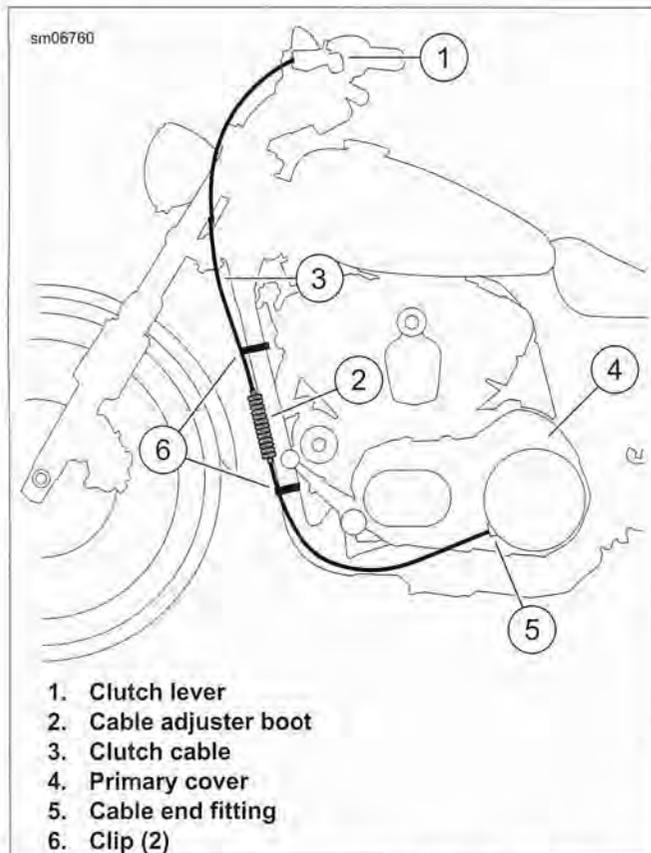
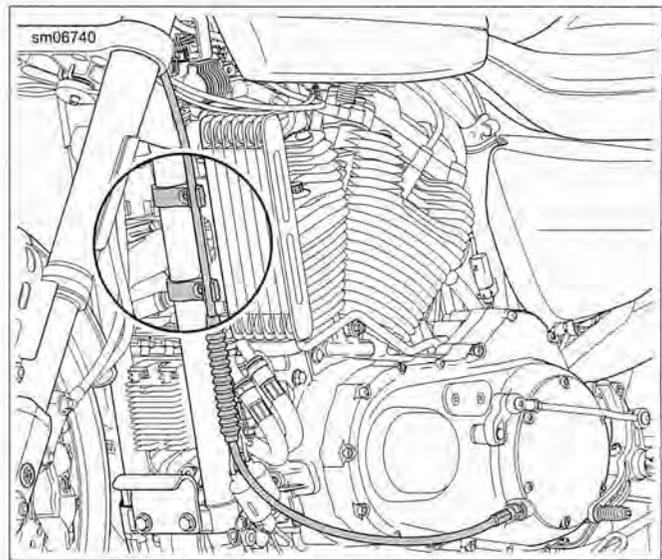

Figure 2-184. Clutch Cable Routing: XL Models
Figure 2-185. Clutch Cable Clips: XR 1200X
1. **XL Models:** See Figure 2-184. Route the clutch cable (3):
- a. Forward from clutch lever (1).
- c. Through two clips (6) on left front frame downtube
- d. Rearward to the primary cover (4).
- XR 1200X:** See Figure 2-185. Route the clutch cable: